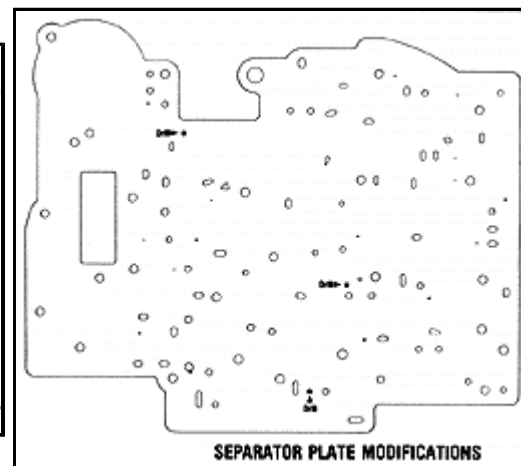

Figure 6
STEP 6 SEPARATOR PLATE: **All applications:** (**See Figure 6**) Using 1/8" drill bit supplied with kit, enlarge the three (3) holes indicated on **Figure 6**. Deburr and clean before reinstalling plate.